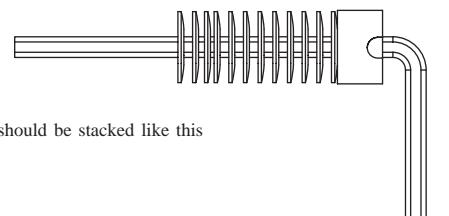

Figure E-1B
- 1. Locate the 5/64" Allen Wrench (59) supplied with the kit. Place the Diff Nut(57), tab side first, over the Allen Wrench.
- 2. Stack 12 Belleville Washers (58) over the Wrench, next to the Diff Nut. The Washers should all point the same direction with the concave side facing away from the Diff Nut as shown in *Figure E-1B*.